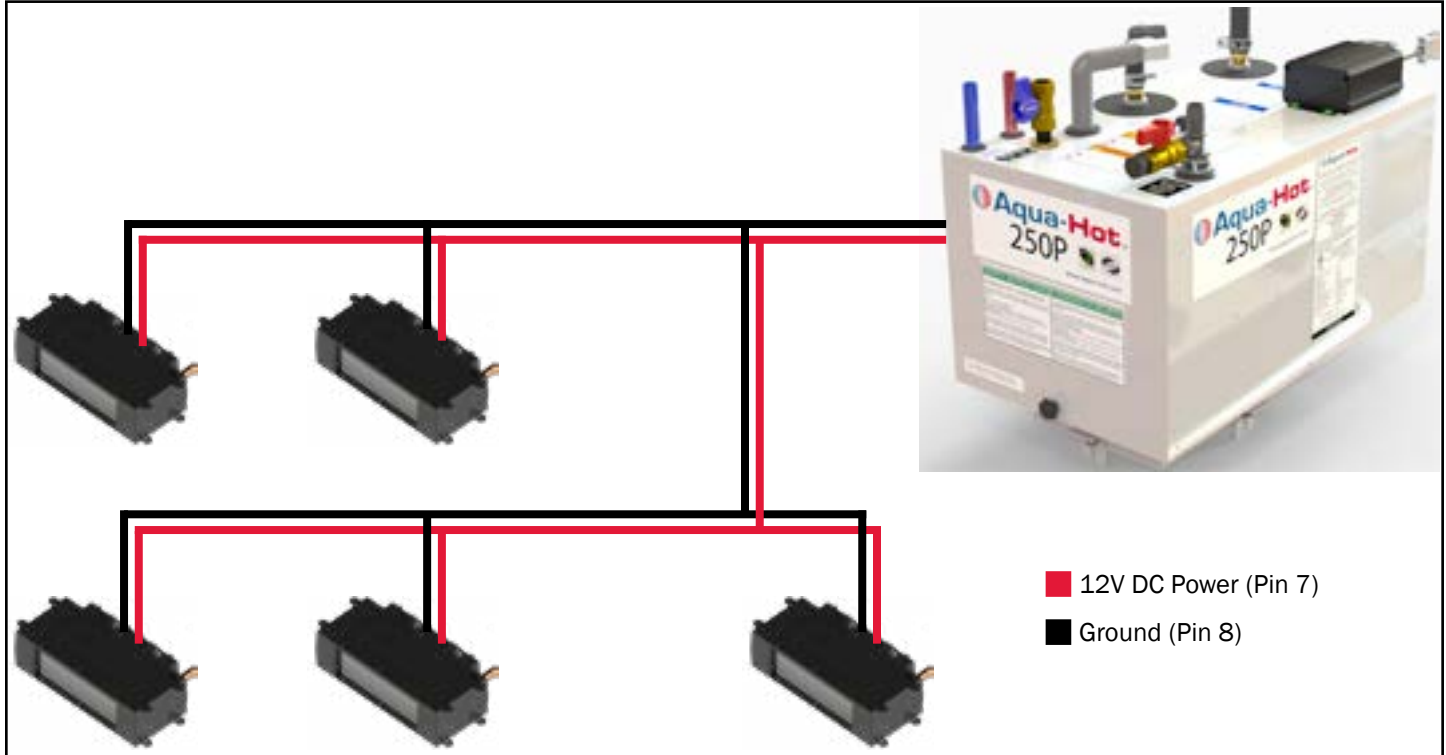

Figure 22
1. Wire each heat exchanger in a parallel circuit inside the coach (all heat exchangers share a common power wire and a common ground wire) as shown in Figure 22.